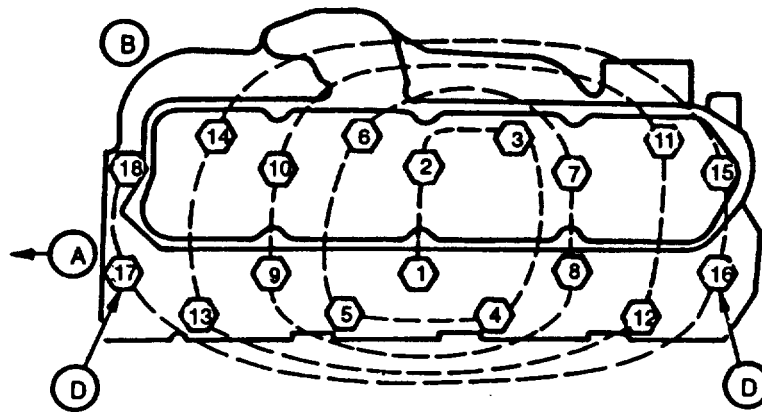

FIGURE 3-104. Cylinder Head Capscrew Tightening Sequence
- c. Install two guide studs in cylinder block (for piloting cylinder head) at locating holes 16 and 17 shown in FIGURE 3-104.
- e. Dip entire capscrew (1) in clean engine lubricating oil (MIL-L-2104). Remove excess oil from screw.
- f. Remove guide studs. Install eighteen cylinder head capscrews (1).
- g. Tighten capscrews (1) in sequence shown in FIGURE 3-104 to torque specified below, beginning with No. 1 capscrew. Complete each step on all capscrews before proceeding to next step.
- (1) Step 1 - Tighten all capscrews to 75 ft-lbs (100 Nm).
- (2) Step 2 - Tighten all capscrews to 110 ft-lbs (150 Nm).
- (3) Step 3 - Wait 5 minutes and verify 110 ft-lbs (150 Nm).